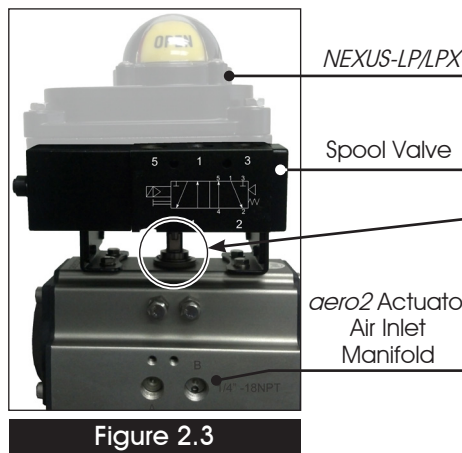

Figure 2.3
4. Place the *NEXUS-LP/LPX* onto the actuator ensuring the Spool Valve is facing the side of the actuator where the NPT air inlet manifold is located (Figure 2.3).